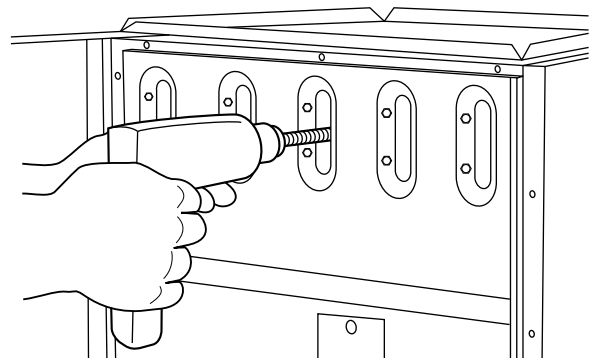

Fig. 58 - Cleaning Heat Exchanger Cell
- (2.) Insert brush end of cable into the outlet opening of cell and slowly rotate with drill. **DO NOT** force cable. Gradually insert cable into upper pass of cell. (See Fig. 58.)